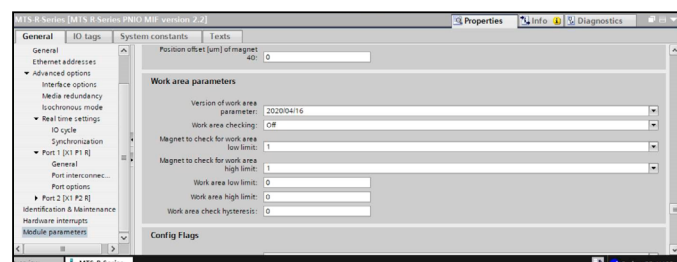

Fig. 96: Setting the switching points for the work area
- **Setting the switching points for input module “Sensor status 2”:** To read the information from the input module “Sensor status 2”, drag this module into the “Device Overview” window. In the “Module parameters” section of the sensor, you can set the parameters for switching points under “Work area parameters” (Fig. 96):